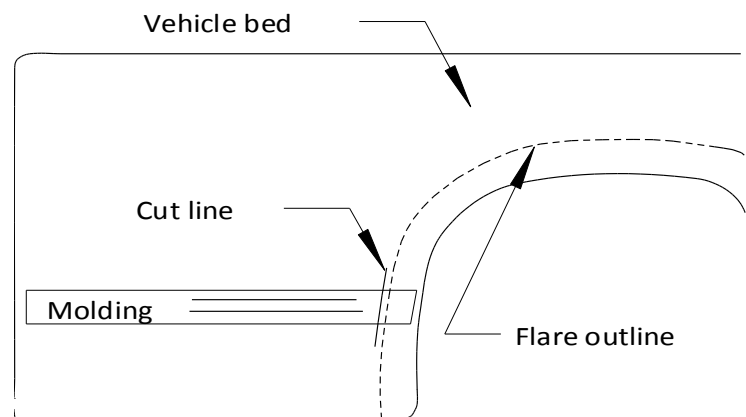

FIGURE 1
- (B) Paint Flares using a high quality lacquer, enamel, or polyurethane automotive paint. Sanding or application of a primer coat is optional.
- (A) Clean and wash vehicle making sure to remove all dirt and debris.
- (B) Remove factory fender trim and mud flaps (when installed).
- (C) Dodge Ram trucks have two different types of body molding. Model years 98-up have an injection molded hard plastic molding. Model years 94-97 have an extruded soft plastic molding,
- d) Carefully cut on marked line with heavy duty scissors. **See FIGURE 1.**